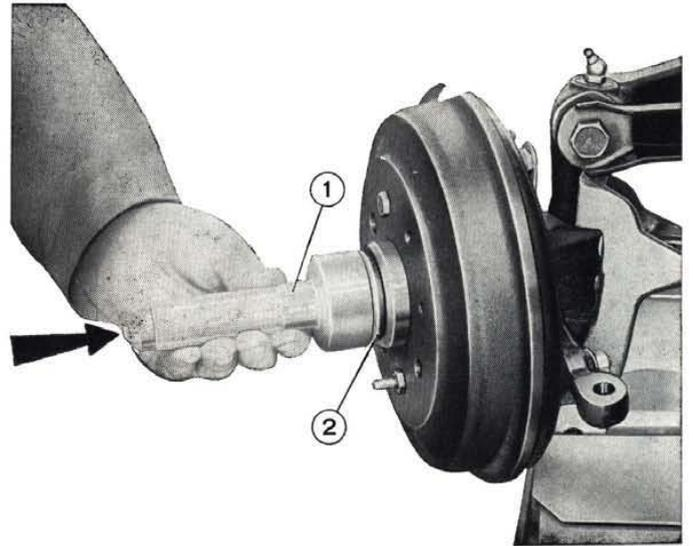

Fig. 230 - Installing wheel hub cap.
- fit the hub cap to the hub (fig. 230).